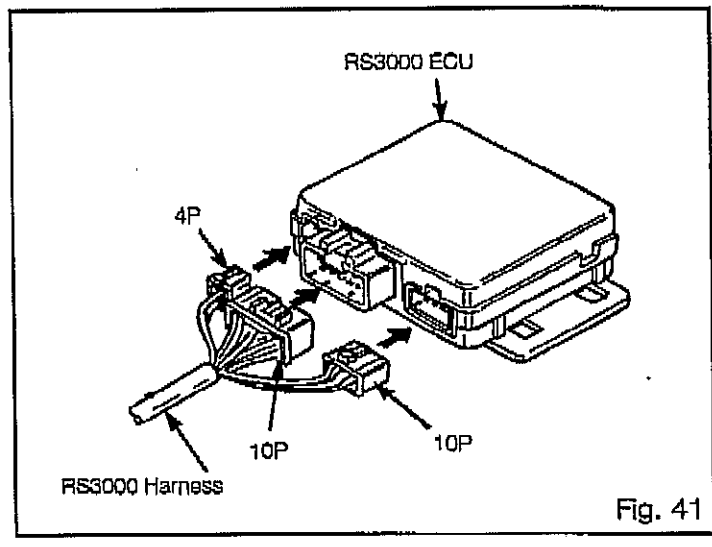

Fig. 41
(2) Plug the RS3000 harness' 4P and two 10P connectors into the ECU. Fig 41